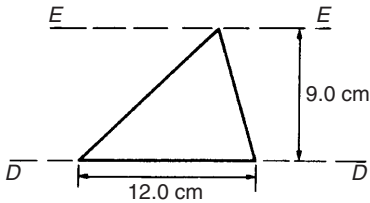

Figure 7.20
2. Determine the second moment of area and radius of gyration for the triangle shown in Figure 7.20 about (a) axis  $DD$  (b) axis  $EE$  and (c) an axis through the centroid of the triangle parallel to axis  $DD$